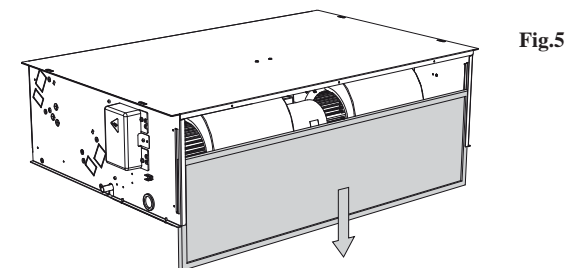

Fig.5
- Remove the filter (fig5.)
- Remove the filter (fig.5)